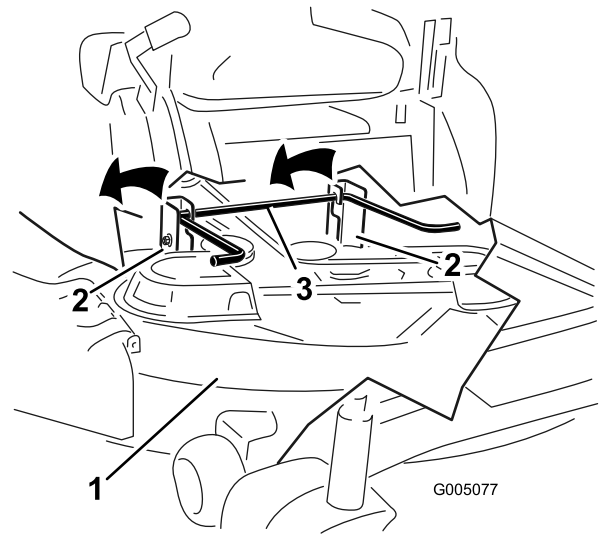

Figure 45
- Lift the mower and hanger brackets clear of the rear lift rod and lower the mower carefully to the ground (Figure 45).
- Lift the rear of the mower deck and guide the hanger brackets over the rear lift rod (Figure 45).